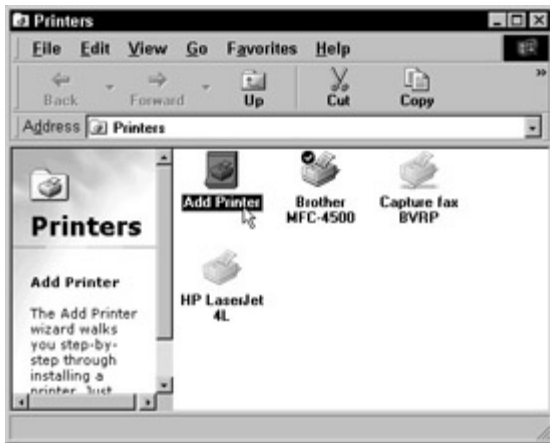

Figure 14-3: Printers in the Printers folder.
Add new printers through the Printers function found on the Control Panel or on the Settings option of the Start Program menu. In either case, the Printers dialog box displays the Add Printer wizard icon (see Figure 14-3). Lab 14-1 details the steps to add a printer.
2. With the Printer folder open, choose the Add Printer icon shown in Figure 14-3 to display the Add Printer dialog box (Windows 3. x or Windows 95) or start the Add Printer wizard (Windows 98 and Windows 2000).